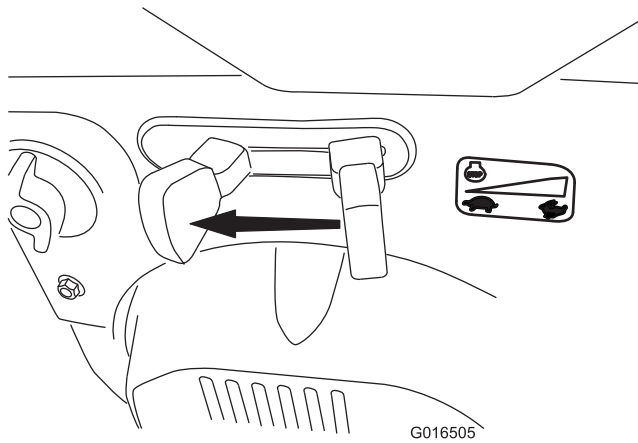

Figure 26
1. Move the throttle to the SLOW position, and then to the STOP position (Figure 26) to shut off the engine. You can also shut off the engine by pulling the ignition key outward to the middle position.